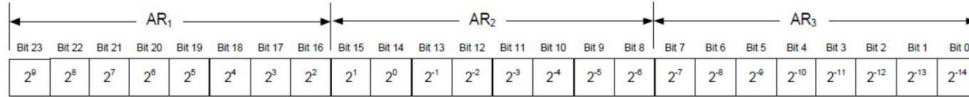

Figure 1 Converting the gyro angular velocity output to [°/s]
1) Gyro angular velocity output [°/s]= $\frac{AR_1 \cdot 2^{16} + AR_2 \cdot 2^8 + AR_3}{2^{14}}$ ata bit format is shown in Figure 1;